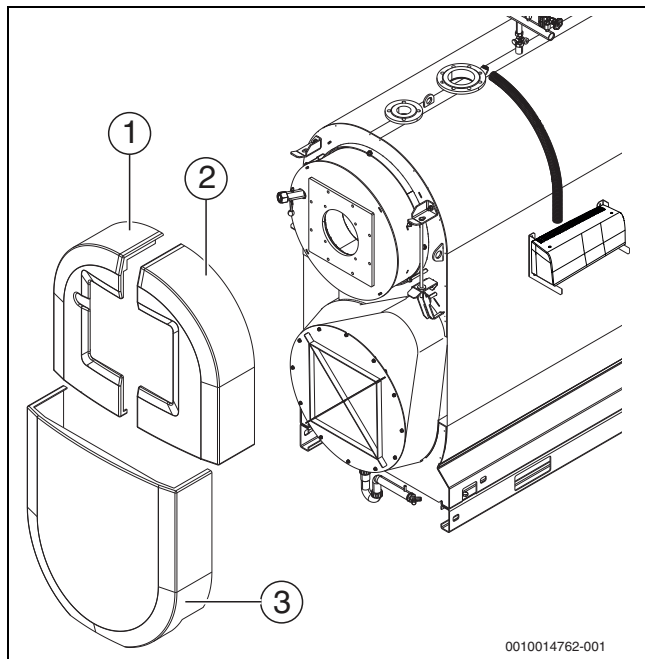

Fig. 20 Fitting the front cover
- ▶ Hook lower front cover (→ Figure 20, [3], page 23) into the holders on the right-hand and left-hand side of the boiler casing.